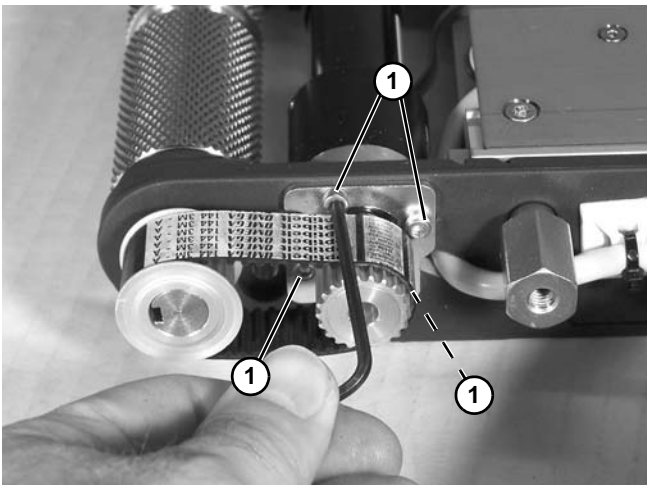

Figure 50
- Loosen four clamp plate screws (Figure 50, item 1).